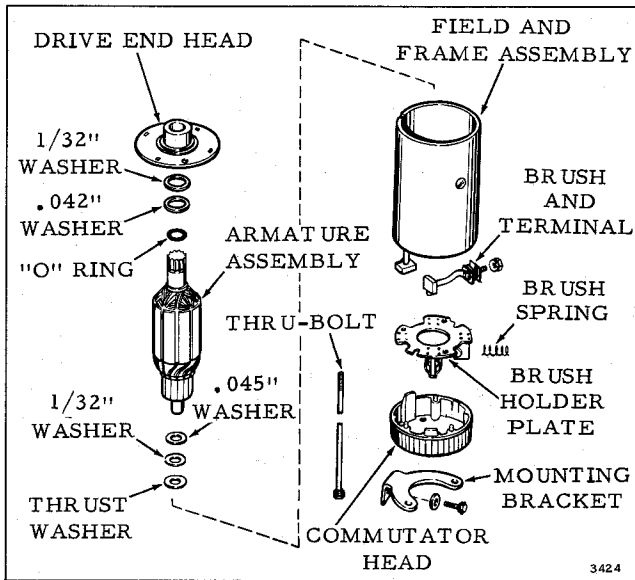

Figure 7-5. Starter Assembly
The starter motor drive pinion is disengaged when at rest and is made to mesh with the flywheel ring gear by the rotation of the starter motor armature. After the motor has started, the starter pinion is driven faster than the starter motor shaft and moves down the screw shaft out of mesh with the flywheel. See Figure 7-5.
- b. Remove commutator head by tapping lightly with a rubber mallet. Remove brushes and spring from holder. Lift armature from frame and field assembly. See Figure 7-5.